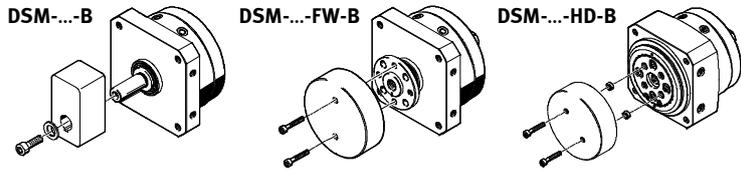

Fig. 9
- Push the moveable mass onto the drive output shaft (spigot shaft/flange shaft/rotating plate) (Fig. 9).